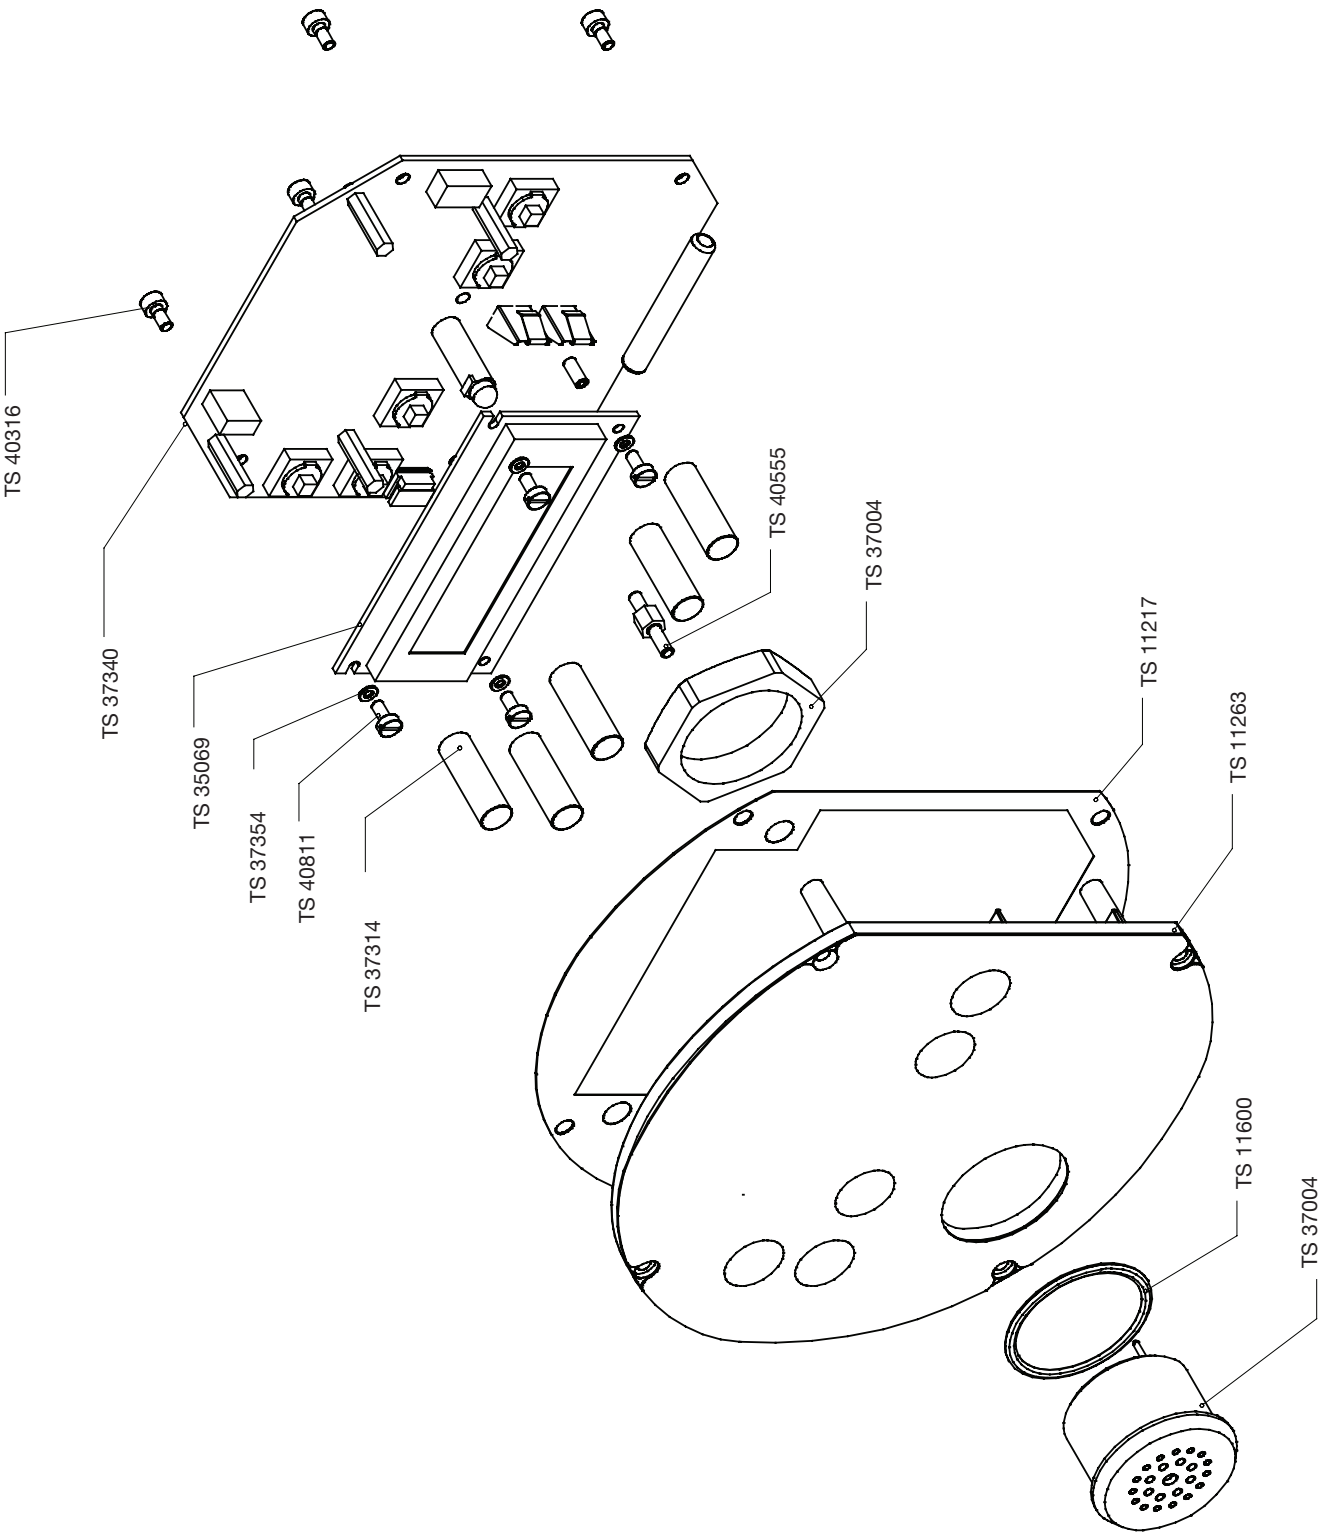

Figure 13-2: display unit assembly TS 10210, details
- Figure 13-2: display unit assembly TS 10210, details